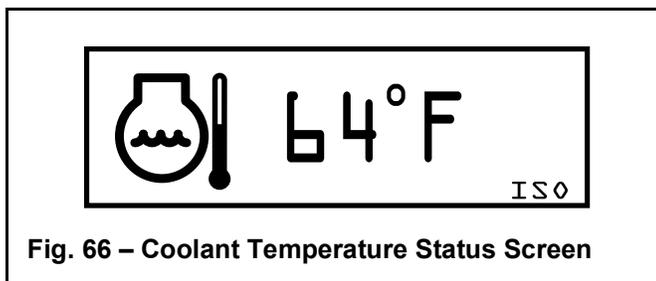

Fig. 66 – Coolant Temperature Status Screen
- When stationary regeneration is complete, the display returns to the coolant temperature status screen (Fig. 66).